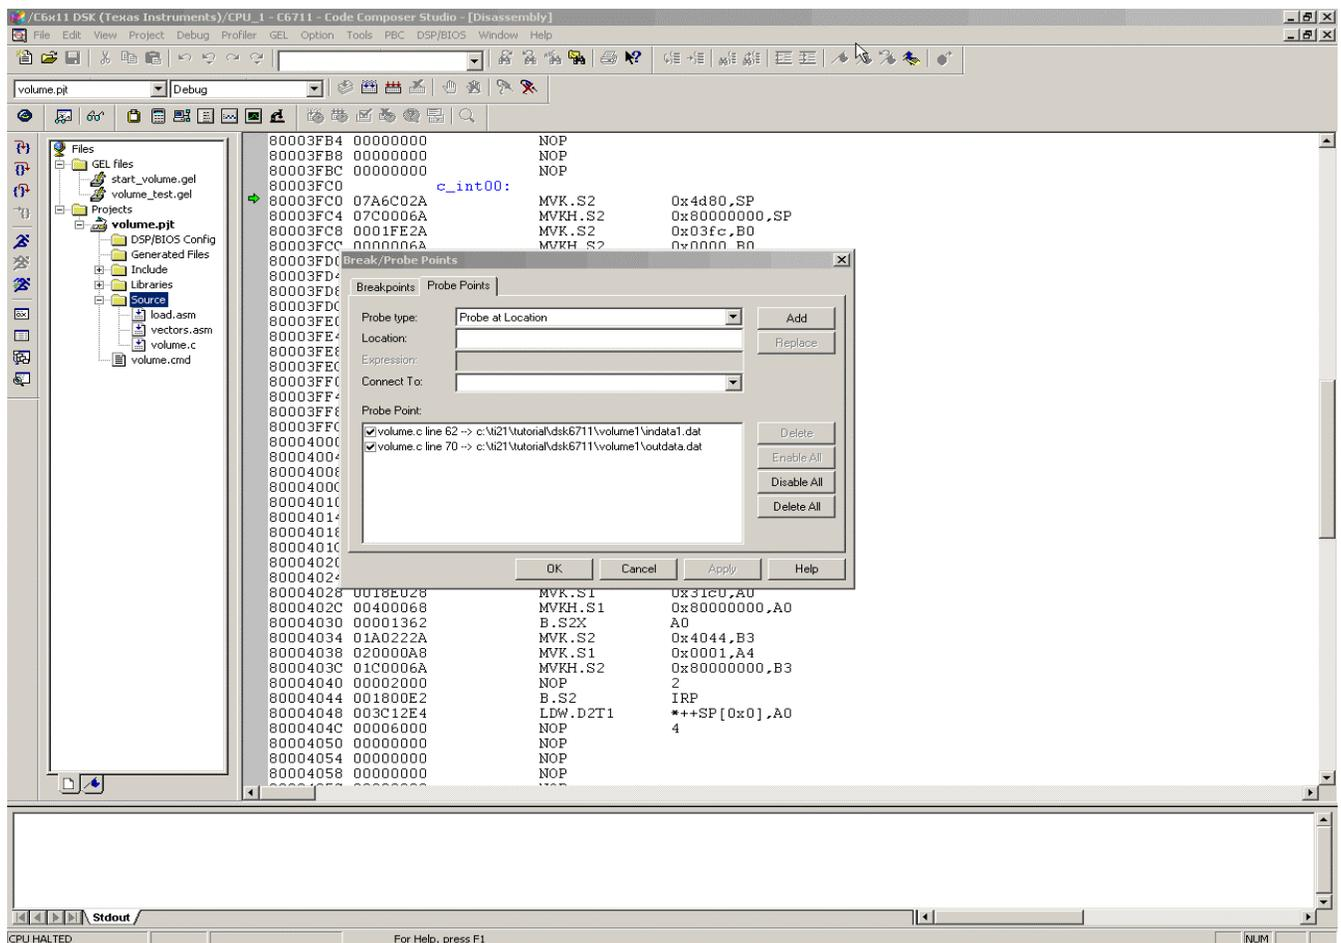

Figure 3. Probe Point Setup Workspace
1. From Section 1.1 or 1.2, when Code Composer Studio is launched, the volume project is opened. Expand the view and double-click on the volume.c file. Take a second to examine the new source code and read the comments. Please note that in copying and pasting the new code, the line numbers may differ from the ones in Figure 3.